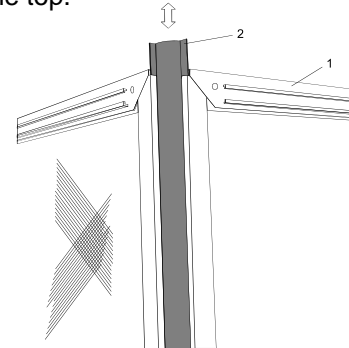

Fig. 3
- Remove door frame (1) by sliding the vinyl hinge (2) upward until it is removed from the door frame (see Fig. 3).